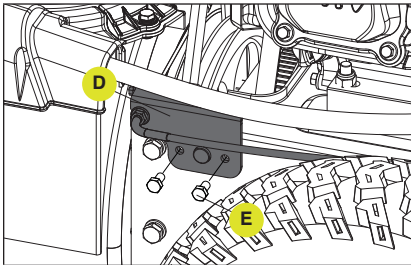

Figure 57
- Remove the auger plate (D) as shown on the front of the engine by removing two M6 x 12 bolts (E). (Fig. 57)